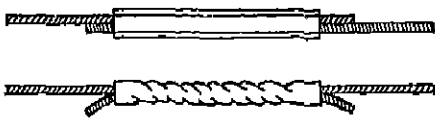

Fig.17.2 Twist Sleeve Joint
- (viii) Hold the sleeve at the ends by the two twisters and give three or four turns simultaneously by turning the twisters in opposite directions. The finished twist sleeve joint should look as shown in Fig 17.2.